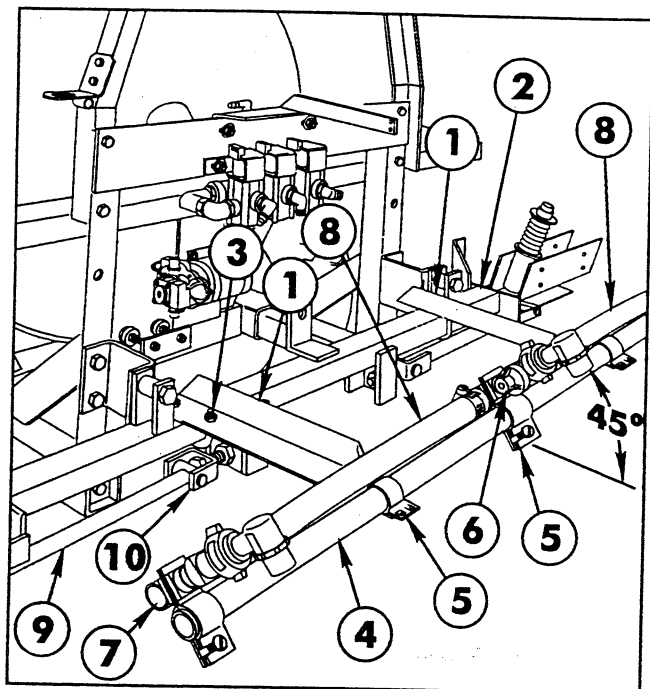

FIG. 21
7. Position the two (2) Center Boom angles on the Main Frame and secure them to the Main Frame tube with two (2) square U-bolts, four (4) flat washers and hex nuts. See FIG. 21.
8. Center and attach the Center Boom Pipe to the two Center Boom Angles with two (2) clamps, 3/8" x 1" cap screws, flat washers and lock nuts.
9. Loosely attach the triple barb Nozzle Assembly in the approximate center of the Center Boom Pipe. For the most uniform spray coverage, position all Nozzle Assemblies at a 45° angle as shown in FIG. 21. Tighten clamp screw to secure the Nozzle to the Boom Pipe.
11. Attach the two Strut Assemblies to the two adjustable clevis' found on each side of the Main Frame tube with two (2) 1/2" x 2" clevis pins and two (2) 1/8" x 1" cotter pins.
12. Insert the plugged end of an Extension Boom Pipe into the Pivot Assembly and secure with four (4) 1/4" x 1-1/4" cap screws and lock
16. Adjust the Booms to a level position by adjusting the jam nuts on the adjustable clevis assemblies (See FIG. 21) to the desired position, then tighten the end nuts against the Main Frame plate.